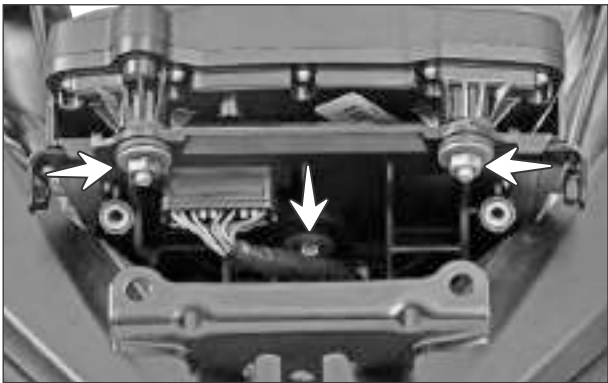

Fig. 5.56
- Remove the hexagonal nut (M6 - 3 nos.) along with plain washers from the mounting of speedometer assembly. (Fig. 5.56)